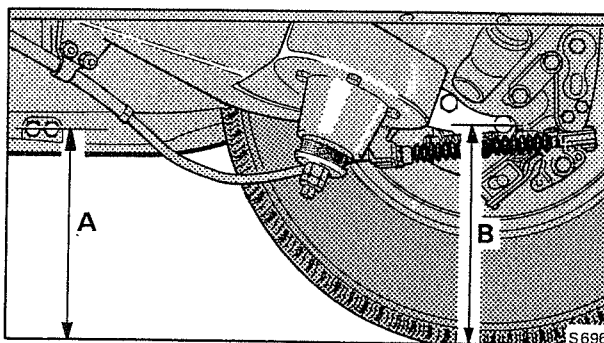

Fig. G29 Levelled height setting measurement positions
4. Check the levelled height by measuring the height 'A' (see Fig. G29) from the level surface on which the car stands, to the centre line of the rear-most bottom bolt which secures the forged bracket of the rear suspension crossmember to the body sill. Measure height 'B' from the level surface to the centre line of the rearmost bottom bolt which secures the rear hub assembly to the trailing arm. The difference between these two heights should be between 19,05 mm. and 25,4 mm. (0.750 in. and 1.0 in.). The maximum permissible difference in height between each side of the car being 4,76 mm. (0.187 in.).